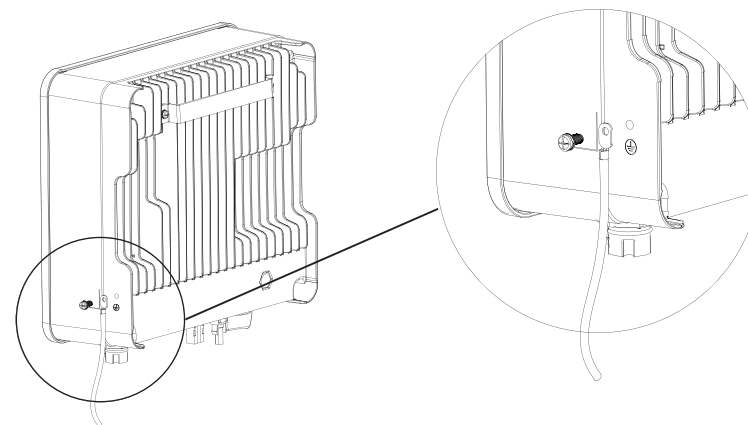

Figure 4-8 Grounding terminal connection
- ① The external grounding terminal is located in the lower right side of the inverter.
- ② Fix the grounding terminal to the PE wire with a proper tool and lock the grounding terminal to the grounding hole in the lower right side of the inverter, as shown in Figure 4-8.
- ③ The cross-sectional area of the external grounding cable is 4mm².